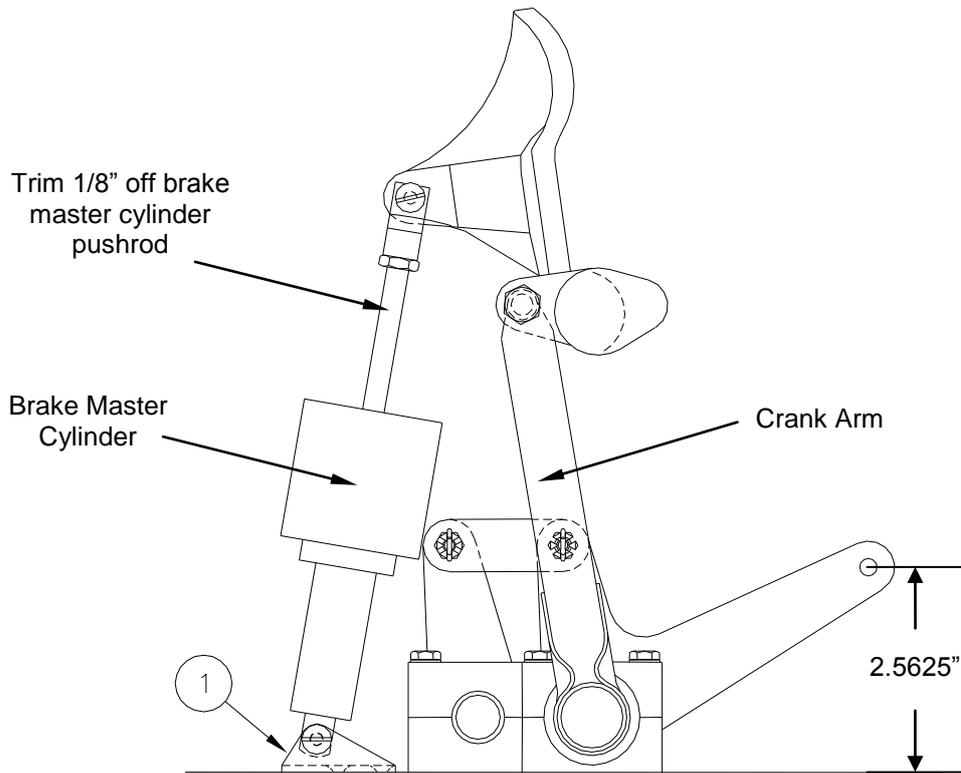

Figure 3: Position after Service Bulletin Incorporation
- 1.6. Remove the brake cylinder mounting brackets and install new brackets (GA8-272021-41, Item 1) in accordance with Figure 3.
Rudder pedals will adopt a position angled slightly forward as shown in Figure 3.